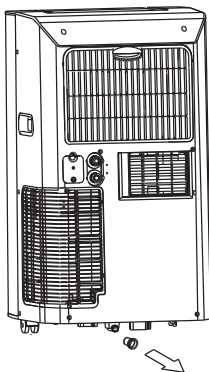

Fig.24
- When the water level of the bottom tray reaches a predetermined level, the unit beeps 8 times, the digital display area shows "P1" and the unit stop operation. Carefully move the unit to a drain location, remove the bottom drain plug and let the water drain away(Fig.24). Restart the machine until the "P1" symbol disappears. If the error repeats, call for service.
- When you plan to leave this unit unused for a long time, remove the bottom rubber plug from the back hole and attach a section of the continuous drain hose . All the water in the bottom tray would drain outside through the drain hose.(See Fig.24)